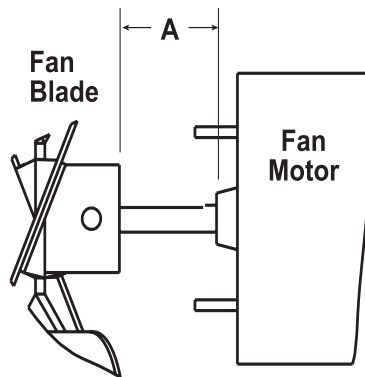

Figure 33. Fan and Motor Spacing (Refer to Table 25)
6. Ensure that fan blade is in proper position on shaft (see Figure 33), that setscrew is tightened to 130 (± 10) inch-pounds, and that nuts securing motor to fan guard are torqued to 30 inch-pounds.
*See Figure 33.